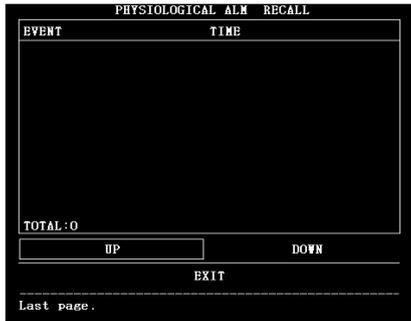

Figure 3.19 Physiological Alarm Recall
- 2) Revolving the knob key to enter **Physiological Alarm Recall**,The physiological alarm of fetal heart rate exceeding limit can be reviewed.the diagram is showed as **Figure 3.19**